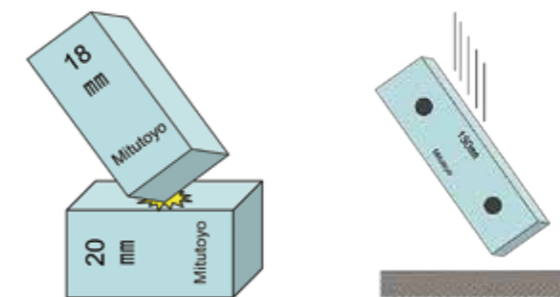

Fig. 1
1. Handle gauge blocks with great care to avoid damage to the measuring surfaces due to impact with each other or by being dropped (Fig. 1). Damage, such as burrs, will adversely affect the accuracy of any measurements made.